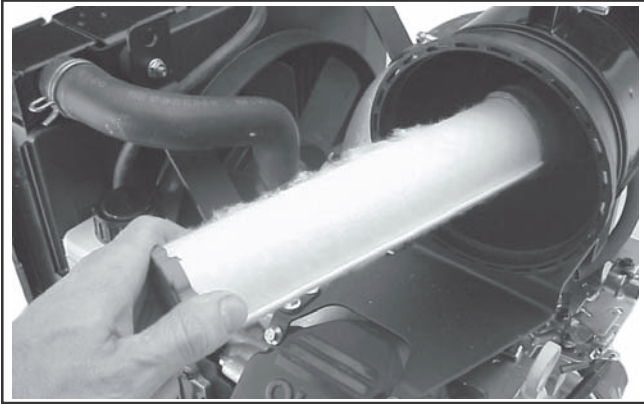

Figure 17. Removing Inner Element.
3. After the main element is removed, check the condition of the inner element. It should be replaced whenever it appears dirty, typically every other time the main element is replaced. Clean the area around the base of the inner element before removing it, so dirt does not get into the engine. See Figure 17.